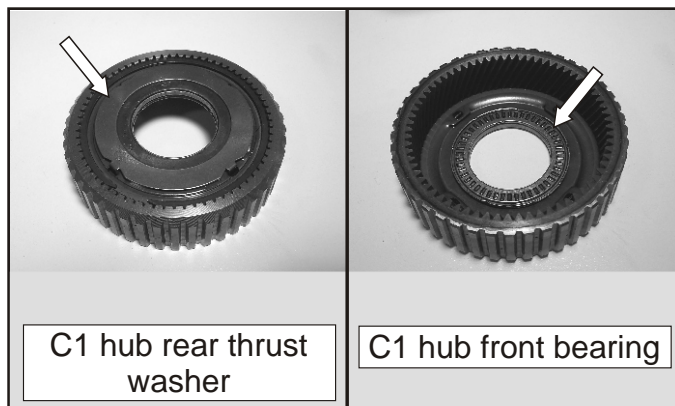

Figure 244
- 172. Install the C1 hub rear thrust washer and the C1 hub front bearing with assembly lube to hold them in place. See Figure 244.